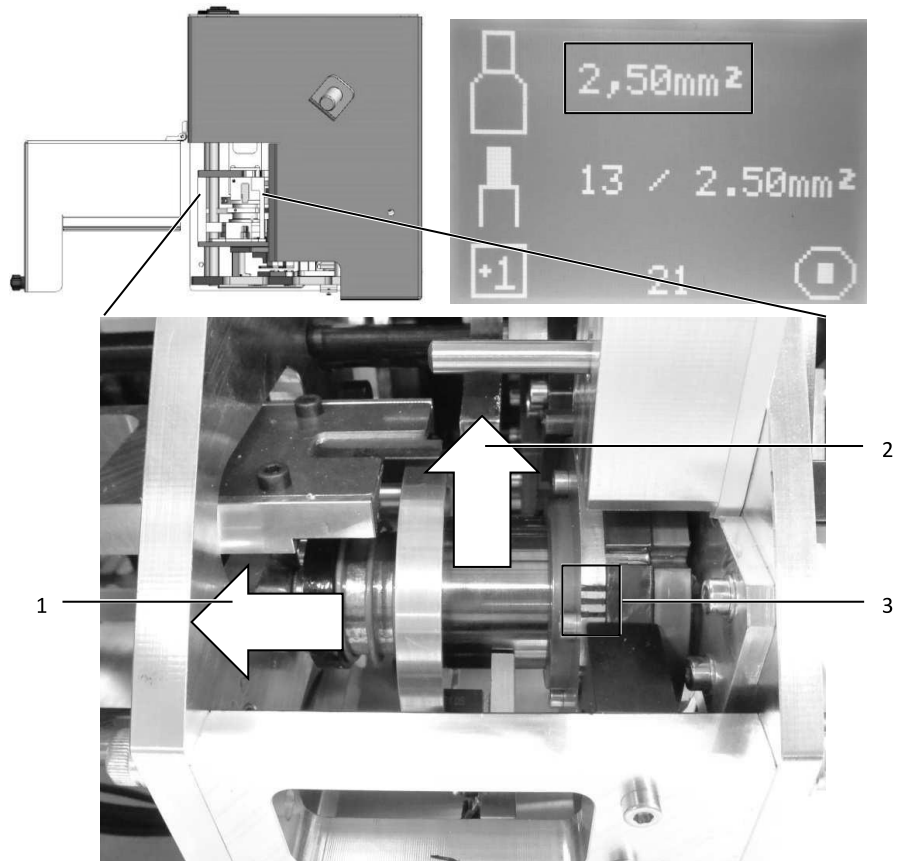

Fig. 8: Setting the die size
- Press the drum backwards (see fig. 8, item 1) and turn (see fig. 8, item 2) to the desired die size.
- Release the drum until it latches. The current nest is displayed with the bars (see fig. 8, item 3).